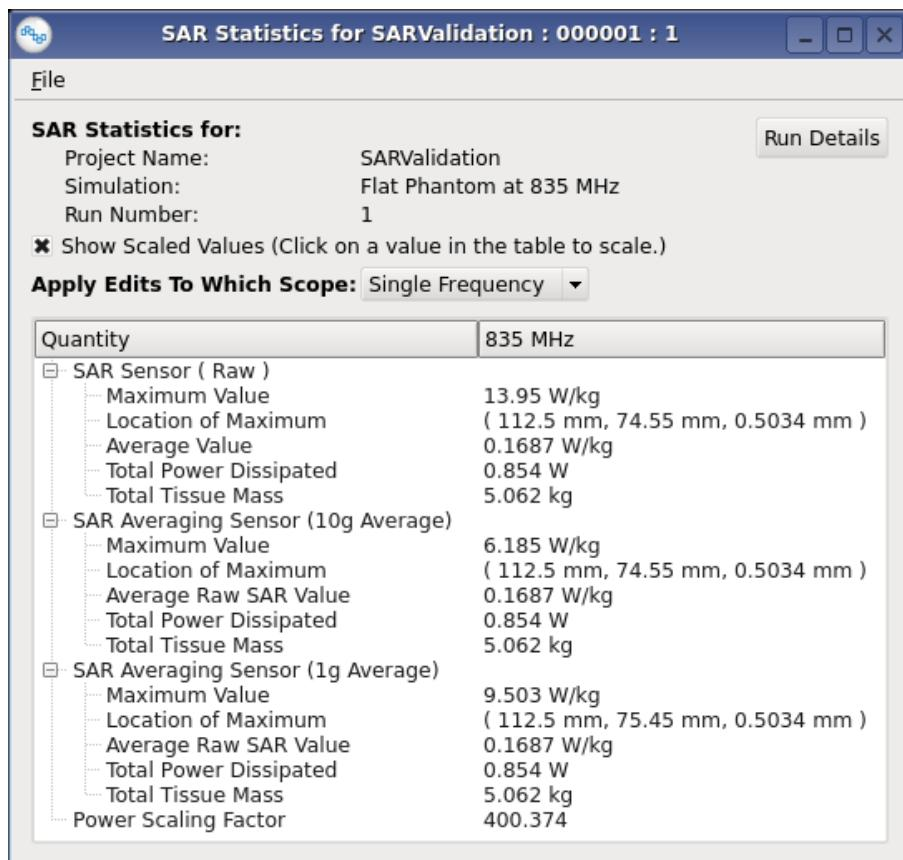

Figure 9.24: The SAR statistics for the simulation showing the peak values and locations
- Under the STATISTICS tab, press VIEW ALL SAR STATS. A summary table of the SAR values will appear, as shown in Figure 9.24.